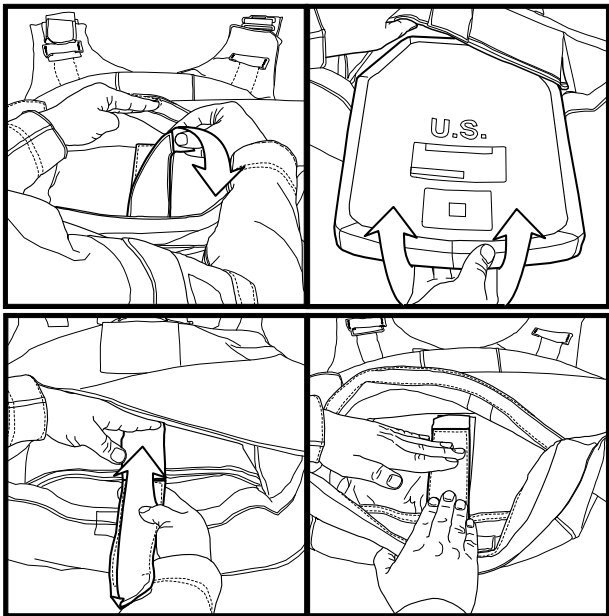

Figure 28. Inserting ESAPI Plates.
25. Install ESAPI plates (as required) (Figure 28).